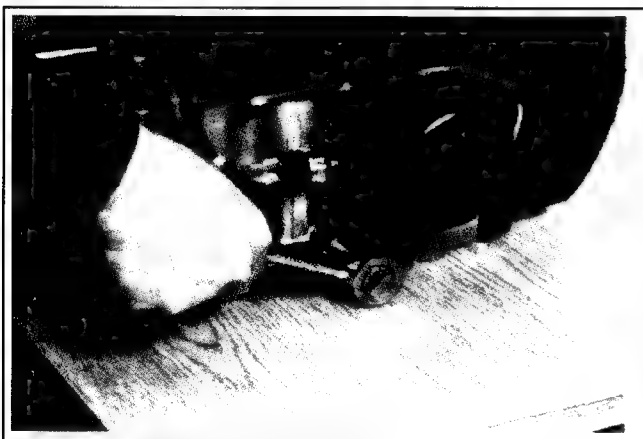

Figure 9-3. Removing Oil Drain Plug and Filter.
1. Remove oil fill cap and one of the oil drain plugs. See Figure 9-3 for location of drain on oil filter side.